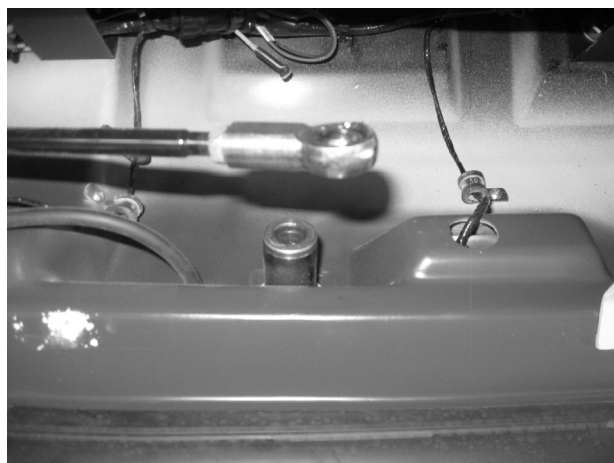

FIGURE 4
7. Remove spring clip and washers so as to separate linkage rod end bearing from R.H. drive crank (Figure 4).